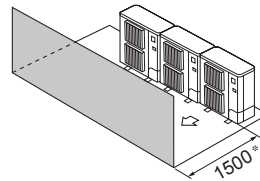

Fig. 2-11
- ③ Obstacles at front (Fig. 2-11)